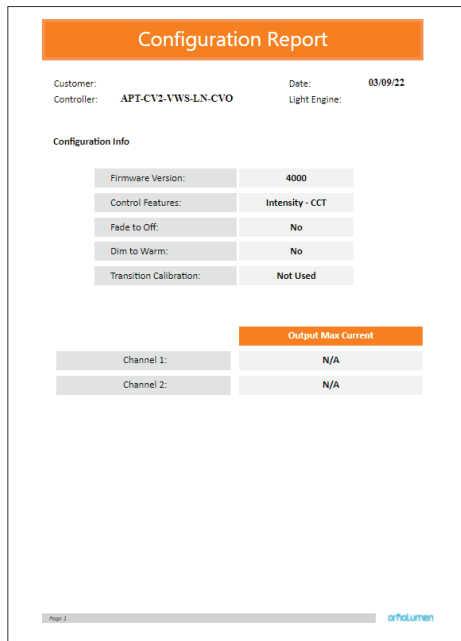

Figure 16: Example of the first page of a generated report
- 1 Select **File > Generate Label** or press **Ctrl +L** to open the Label Generation window (shown in Figure 16).
- 3 Input the 4-digit **ID Number** written on the original label (shown in Figure 16). The ID Number indicates the production build of the APT Controller.